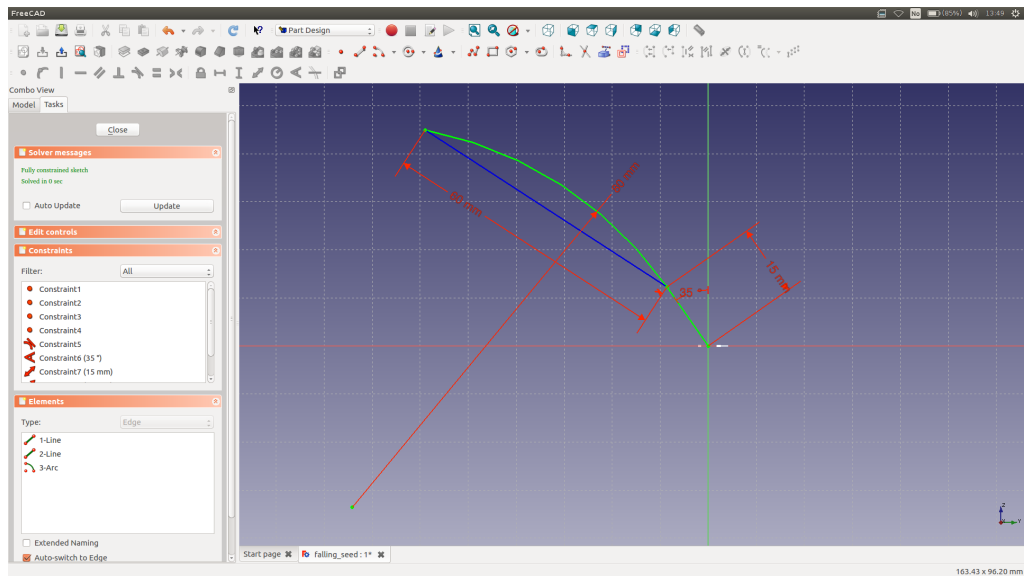

Figure 4
- We now need to build the wingspan line, along which the wing will be built. Start a new sketch in the YZ plane. Build a sketch similar to the one in Fig. 4. Use a tangential constraint between the segment and the arc of circle. Toogle out of the construction mode the construction line on which the circle is built. Close the sketch, and rename it to **wing\_wingspan\_line**.